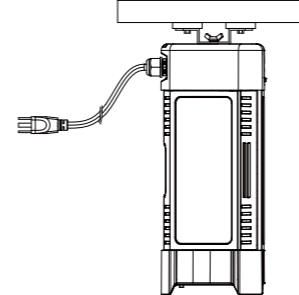

Figure 11
2. Attach the fixture to the iron plate (Figure11). Pay attention to the fragile magnet.